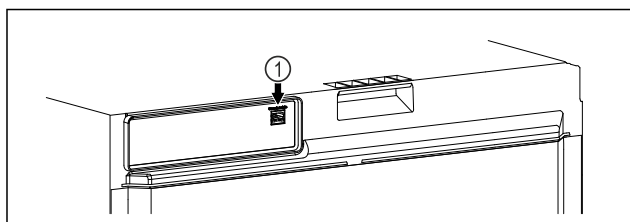

Fig. 107
- ❑ SmartModule Fig. 107 (1) has been inserted.